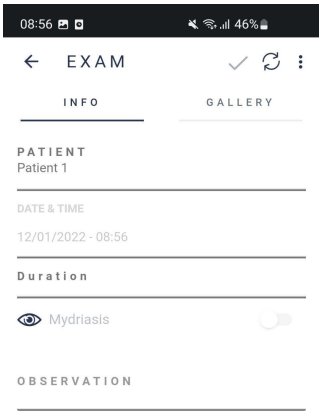
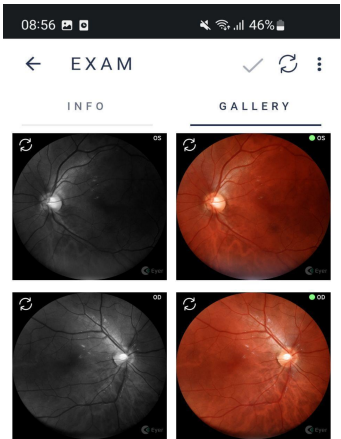

Figure 31 - Info screen
Figure 32 - Gallery screen
6. In figure 31 in the info tab, it is possible to observe general information about the selected patient and in the gallery tab, figure 32, the transferred images are available.